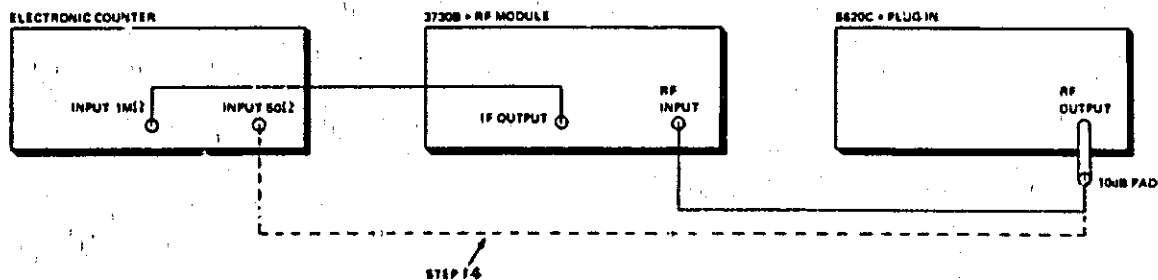

Figure 5-3 YIG Oscillator Frequency Adjustments, Test Equipment Connection
12. Connect the test equipment as shown in Figure 5-3. Start with the 8620 RF OUTPUT connected to the counter.